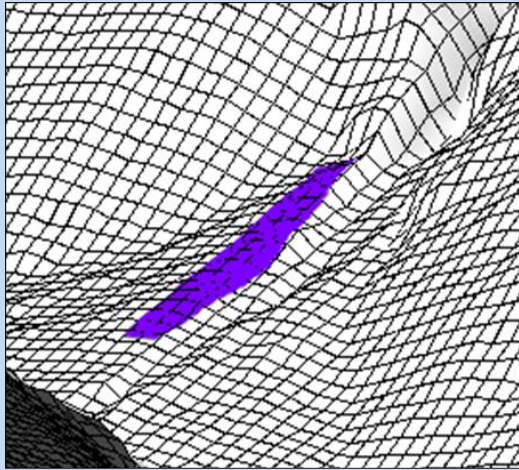

Figure 4-23: Release area where a dam is supposed to be built.
- Create a new polygon area where a dam is supposed to be built (Figure 4-23).